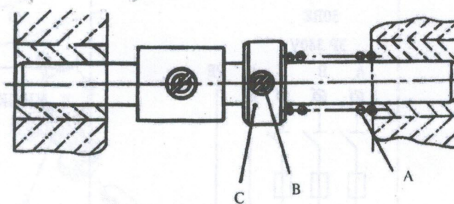

图 13
切刀动片和切刀定片之间的侧向压力是由弹簧（图13，A）产生的，其压力大小应根据切割线辫时的实际需要而定。调节时拧松弹簧挡圈（C）螺钉（B）作减少或增大压力的调节，并重新拧紧螺钉（B）。
The lateral pressure between the knife and the cutting steel is activated by the spring (A. Fig. 13), and it is determined by actual requirement in thread chain cutting. For adjustment, loosen the collar (C) of spring and screw (B), increase or decrease the pressure as required, then retighten screw (B).